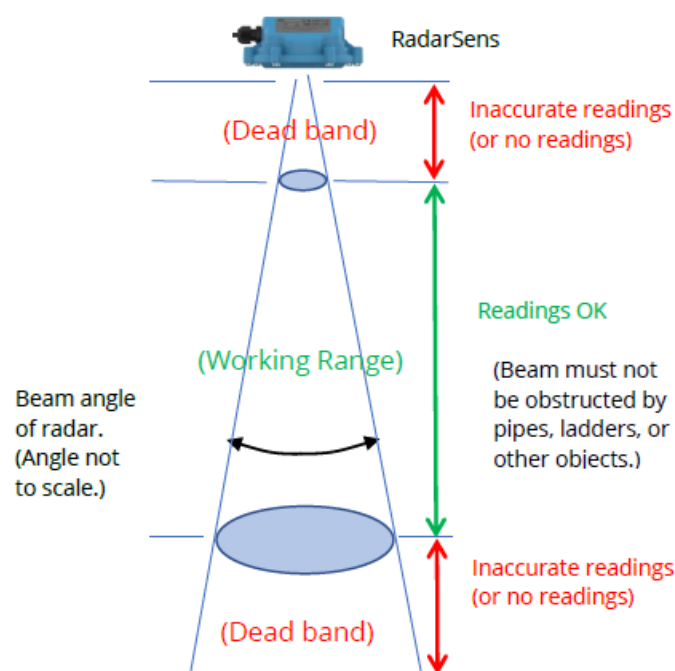

Figure 3. Cone-shaped Radar ‘beam’. Working range and ‘dead band’ areas
- The RadarSens emits a focused radar pulse, which travels in a cone-shaped beam from the bottom of the unit (see Figure 3). The beam is approximately a cone with an angle of up to 15 degrees and should be targeted at the lowest point of the water channel. This will require the sensor base to be accurately levelled and then the sensor location adjusted so as to position the center of the base directly over the lowest point. The center of the beam gives the highest signal, with the signal reducing as the angle increases. Accurate alignment is particularly needed when mounted above curved channels, as otherwise RadarSens will not detect the true bottom of the curved channel as the beam may be reflected in a non-vertical direction.
- The working range of the sensor is illustrated in Figure 3. There are two areas of the cone of the beam that are